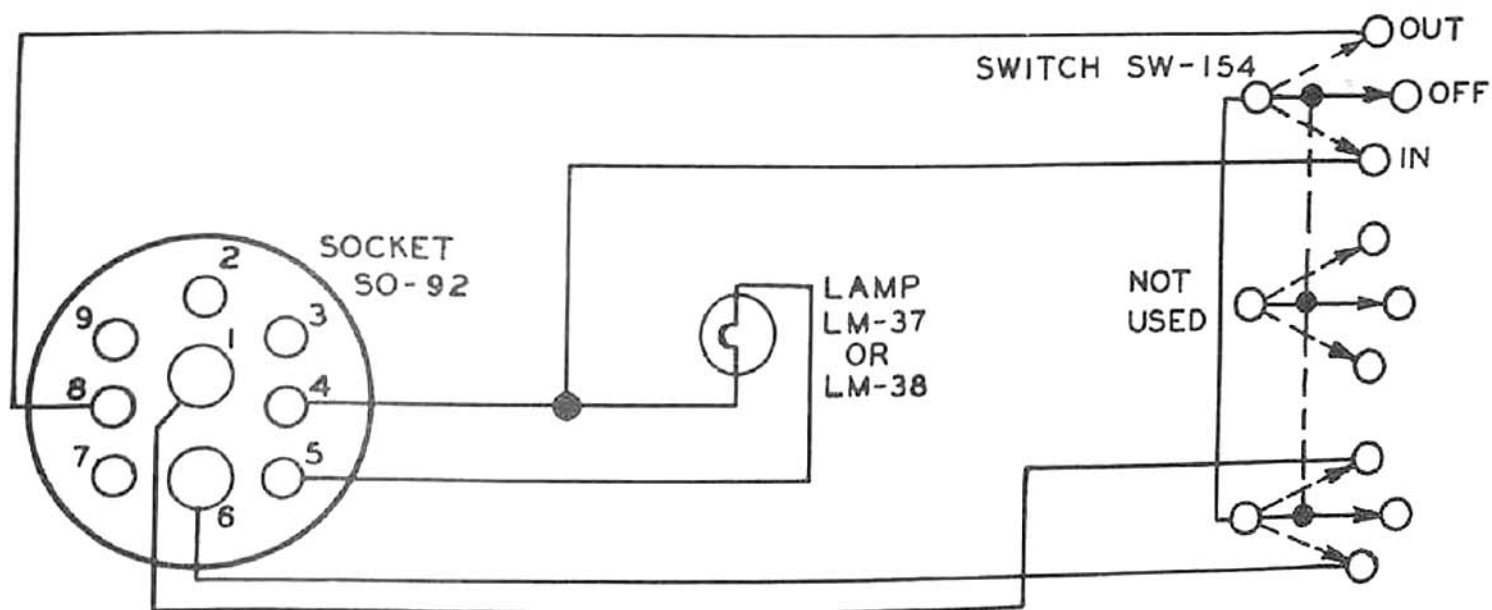

FIG. 2 REEL CONTROL BOX BC-46I CIRCUIT DIAGRAM
- Fig. 2. Reel Control Box BC-461, Circuit Diagram.